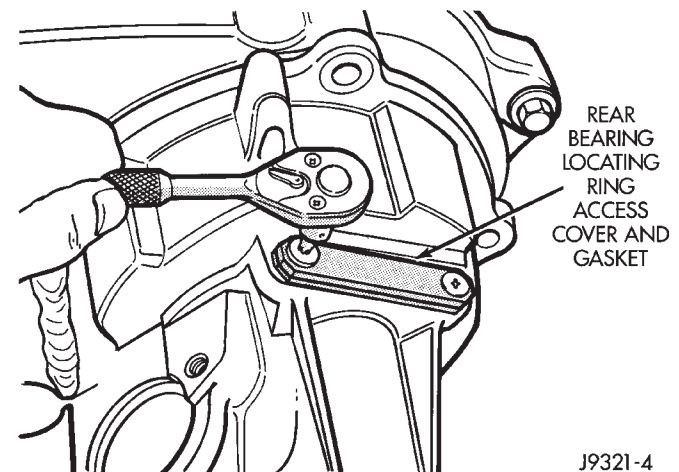

Fig. 4 Removing Locating Ring Access Cover And Gasket
(5) Remove rear bearing locating ring access cover screws, cover and gasket (Fig. 4).